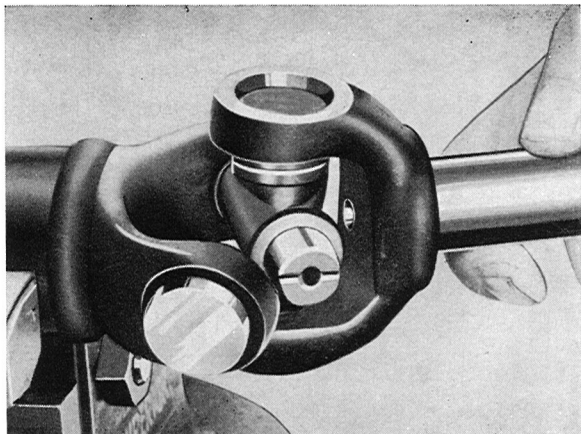

Fig. 4-139. Spider removal, II
5. Drive out one of the needle bearings with a thin metal punch. Remove the spider, see Fig. 4-139. Drive out the other needle bearing.